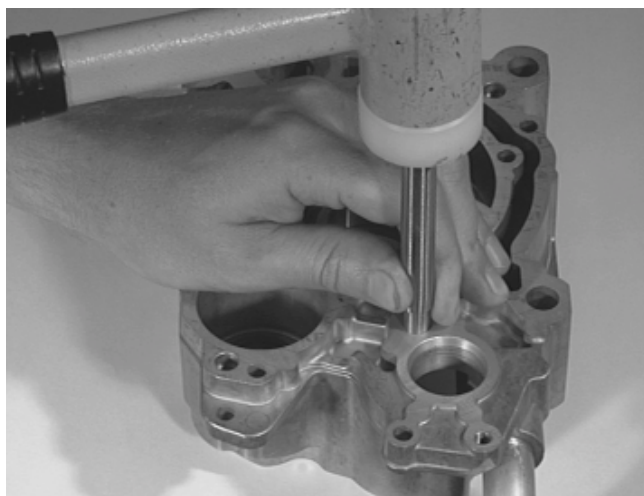

Figure 19.1
- ⇒ take the preheated clutch side crankcase half (1) from the heating unit and drop it on a plane wooden plate. The impact will release the ball bearing of the crankshaft (2) and of the balance shaft (3) from the crankcase half.
- ⇒ turn over the crankcase half and push out the needle cage (4) with the fitting punch (see fig.19.1).